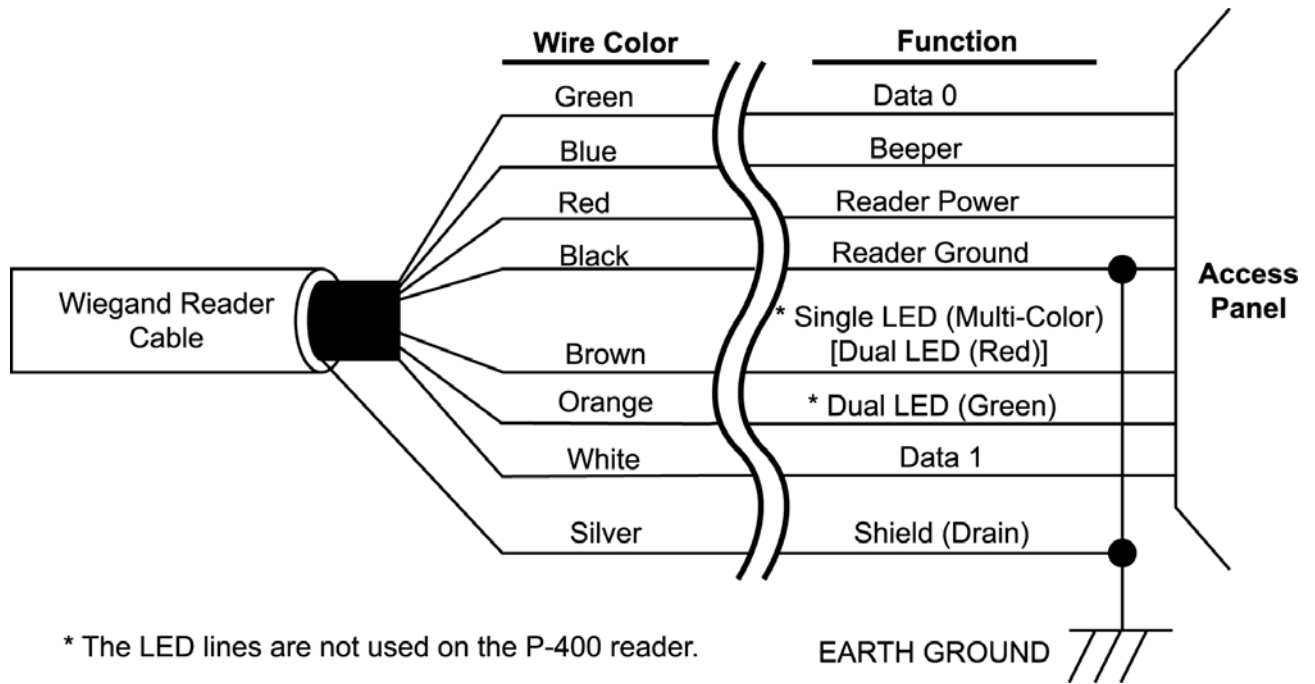

Figure 6: Wiegand Reader Wiring Connections
Refer to Figures 6, 7, and 8 for instructions for wiring a Pyramid Reader2 to either a Wiegand reader access panel or a Magnetic Stripe access panel3.
*NOTE: As shown in Figures 6, 7, and 8, the shield and ground must be tied together at the access panel. Never tie the shield and ground together at the reader.*